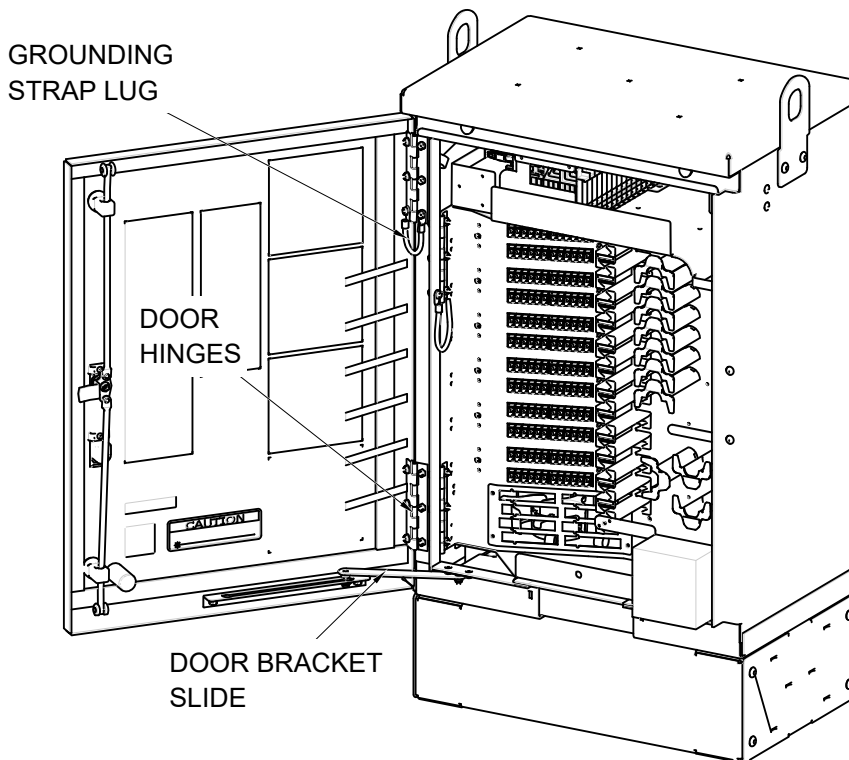

Figure 41. Door Replacement
18.6.1 Open the cabinet door and lock it in the open position as shown in Figure 41.
Note: Be sure to re-secure the grounding strap lug (see Figure 41) to the door when securing the hinges to the door.